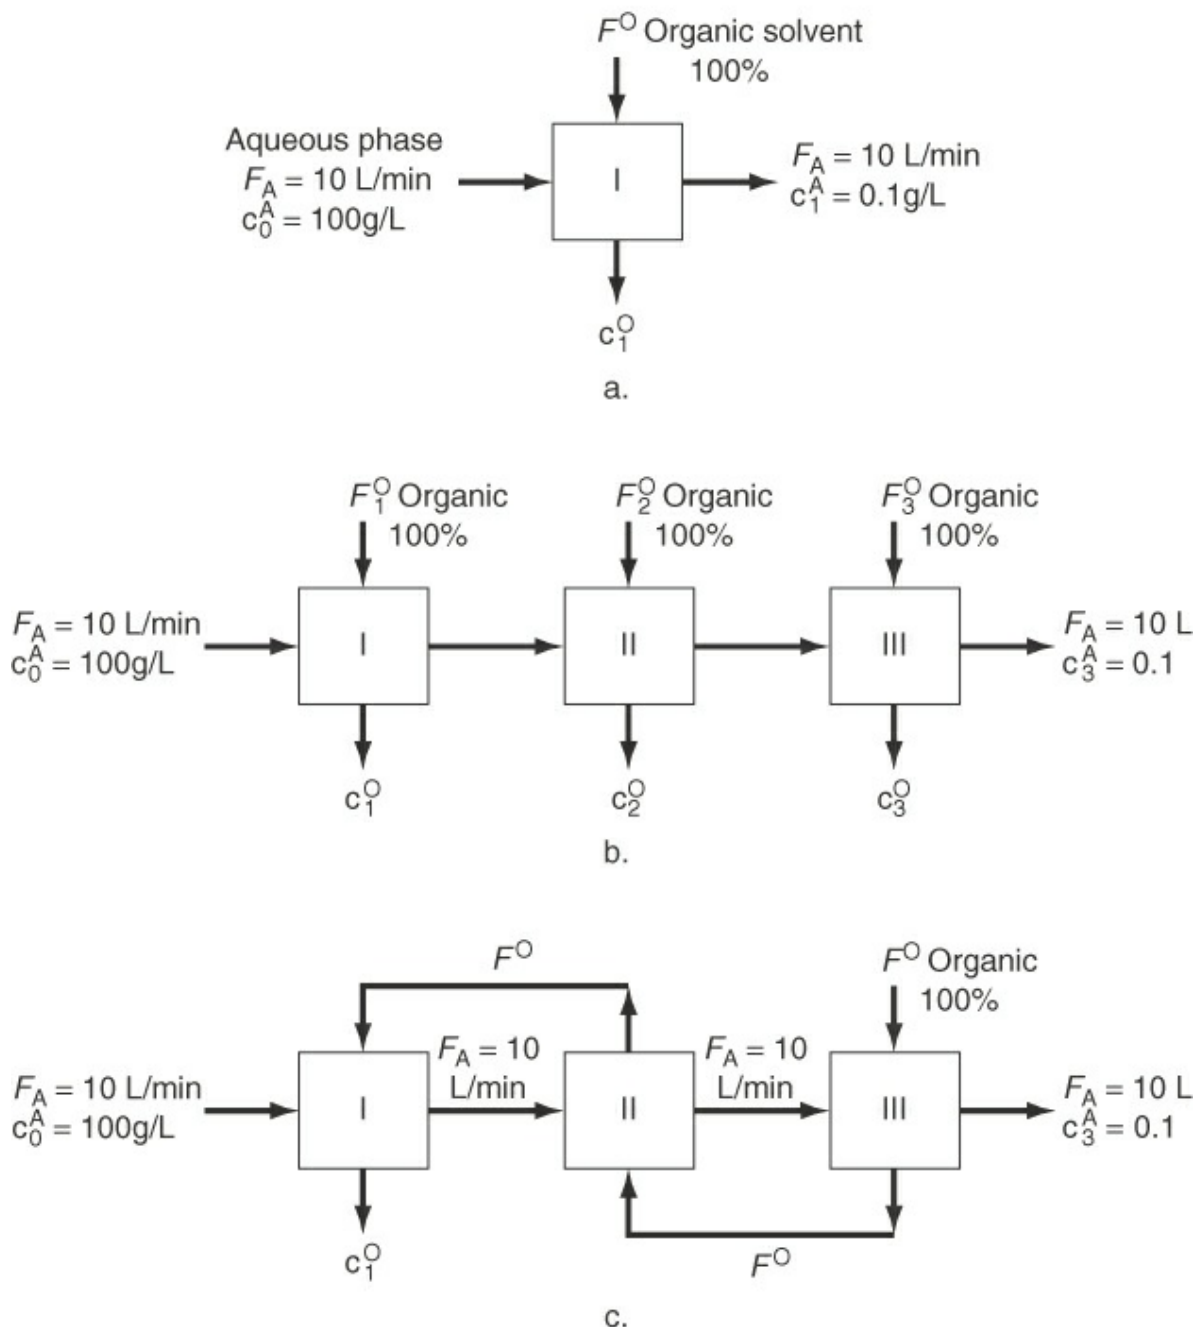

Figure P5.3.17
***5.3.17 This problem is based on the data of G. F. Payne ["Bioseparations of Traditional Fermentation Products," in *Chemical Engineering Problems in Biotechnology*, edited by M. L. Schuler, American Institute of Chemical Engineers, New York (1989)]. Examine Figure P5.3.17. Three separation schemes are proposed to separate the desired fermentation products from the rest of the solution. Ten liters per minute of a broth containing 100 g/L of undesirable product are to be separated so that the concentration in the exit waste stream is reduced to (not more than) 0.1 g/L. Which of the three flowsheets requires the least fresh pure organic solvent? Ignore any possible density changes in the solutions. Use equal values of the organic solvent in Figure P5.3.17b, that is,